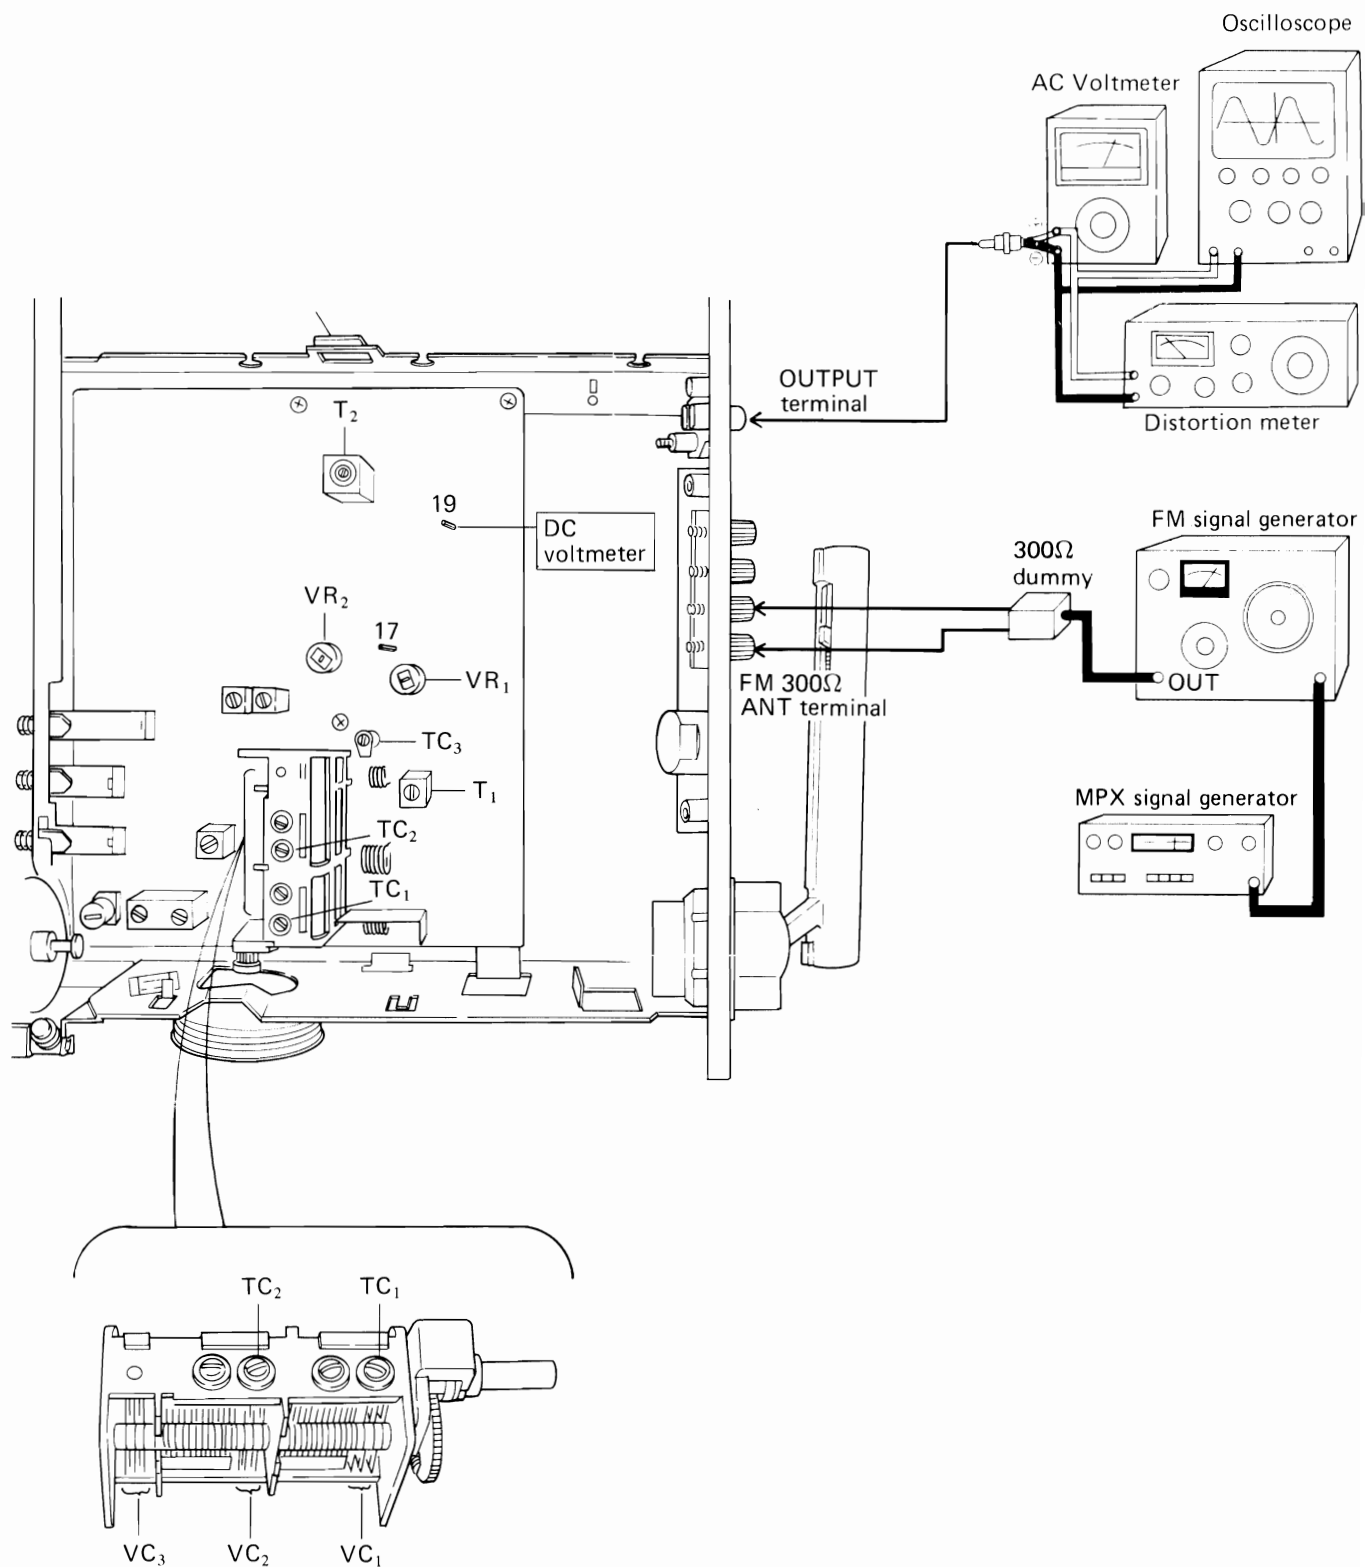

Fig. 8-3
1. Set up the test equipment as shown in Fig. 8-3.